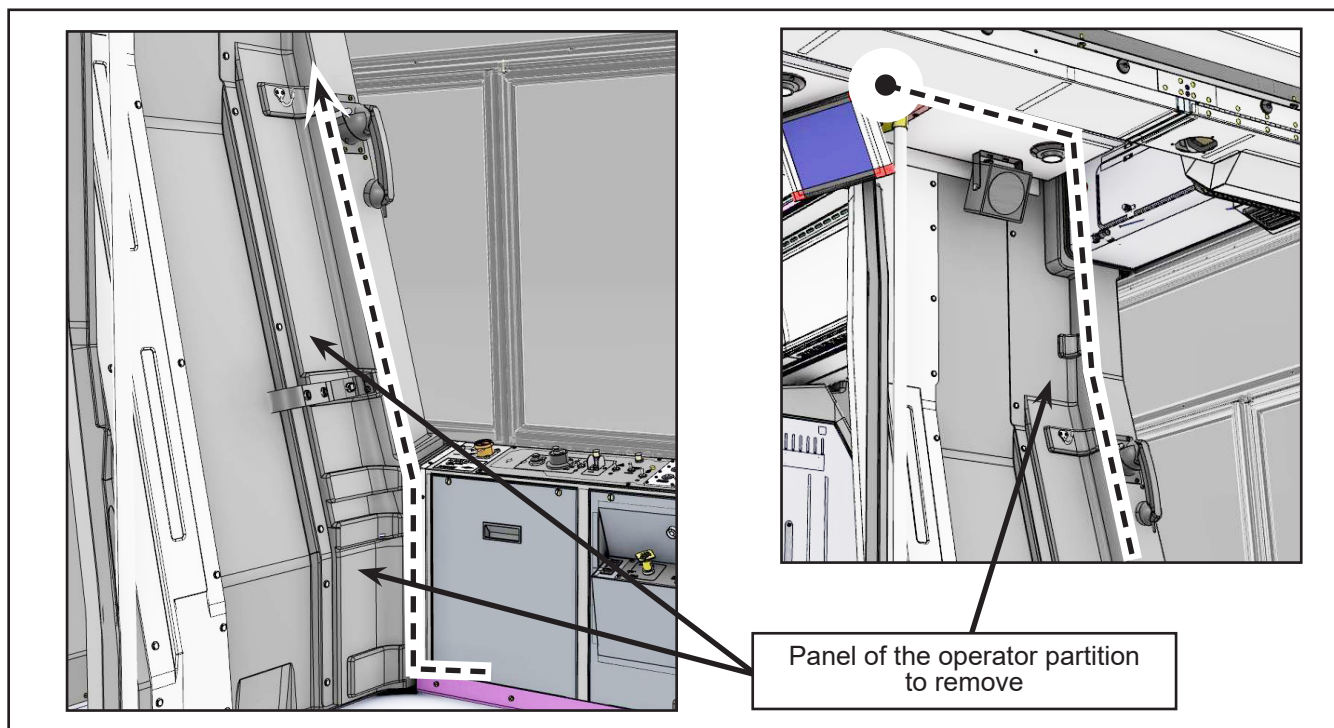

Figure 5 - Routing from the Operator Lateral Console to the RF0 Panel (Components Removed for Clarity)
- 1.12. Behind the operator seat, remove the right panel of the operator partition (13 Push Pins) (Figure 5). Connect and route wire 01-4728 over the main harness bundle (01), from the operator lateral console to the RF0 panel (see Table 1).